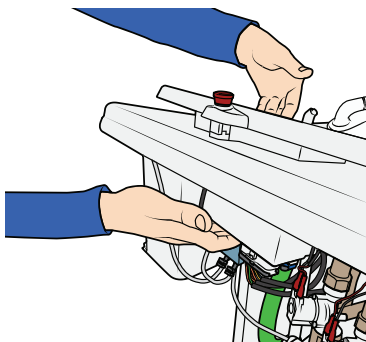

Figure 85
22. Carefully put back the Main panel unit (panel and PCBA box). Support under the box underneath. See Figure 85.